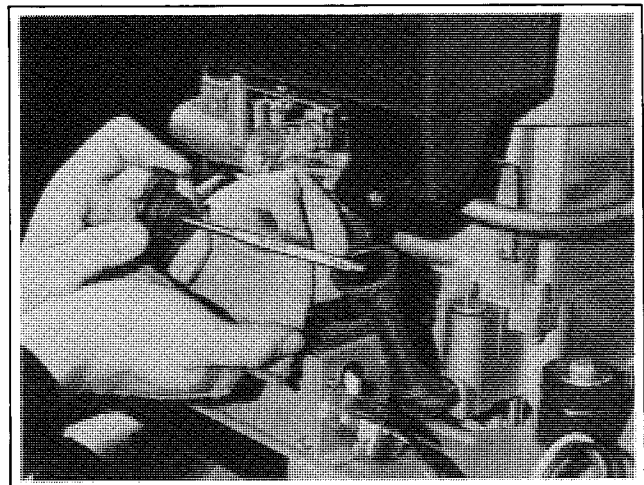

Figure 3. Oil Check
3. Unscrew oil cap and wipe dipstick clean. See Figure 3.